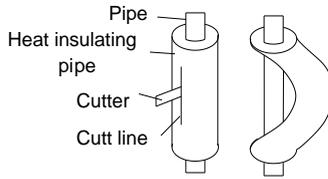

Fig. 4.11
- (2). Do not bend the pipes in an angle more than 90° .
- (3). When pipes are repeatedly bent or stretched, the material will harden, making it difficult to bend or stretch them any more. Do not bend or stretch the pipes more than three times.
- (4). When bending the pipe, do not bend it as is. The pipe will be collapsed. In this case, cut the heat insulating pipe with a sharp cutter as shown in Fig. 4.11, and bend it after exposing the pipe. After bending the pipe as you want, be sure to put